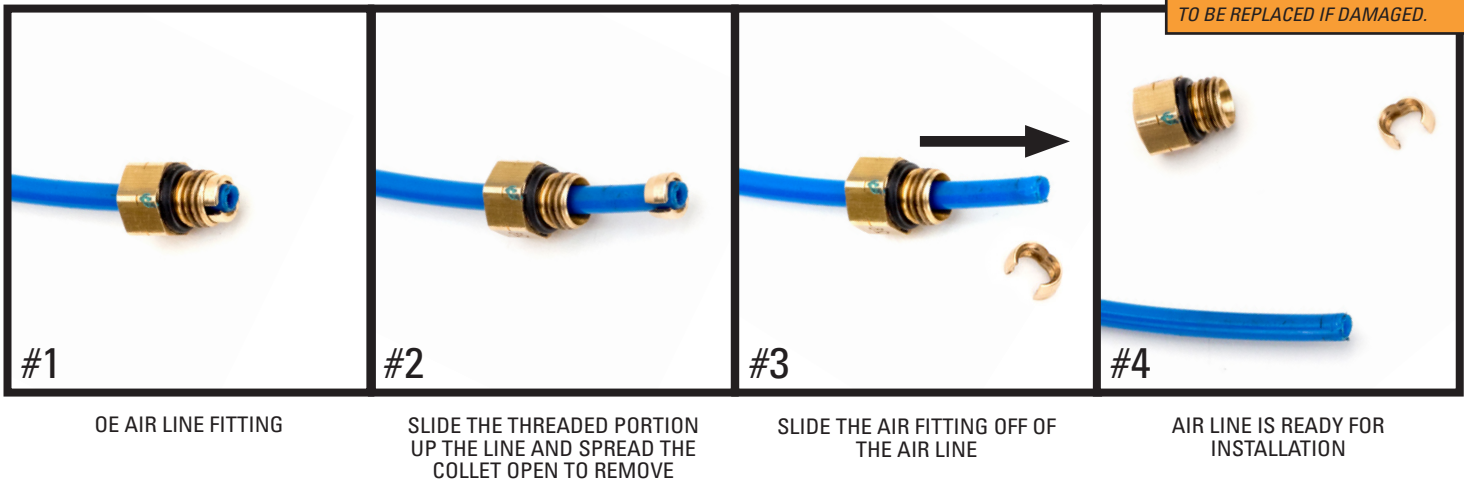

FIGURE 17
3. PREPARE THE EXISTING AIR LINES BY REMOVING THE OLD AIR FITTINGS, USING THE FIGURE BELOW AS AN EXAMPLE. (FIGURE 17)